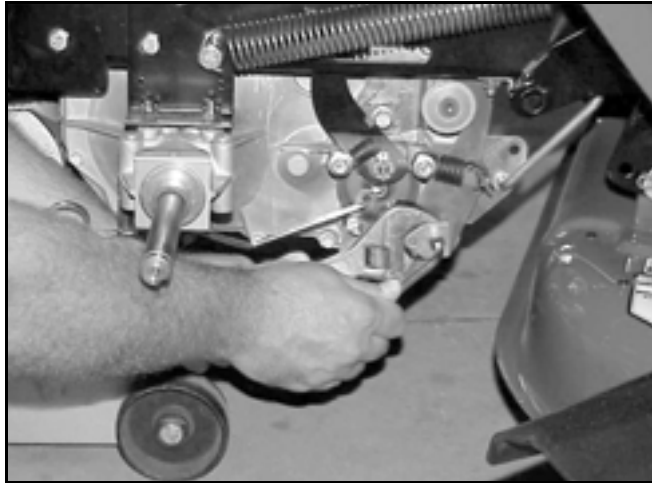

Figure 138 2001-021
5. Once you are in neutral, hold the puck with an adjustable wrench so it won't move when you retighten the Allen bolt (Figure 138).